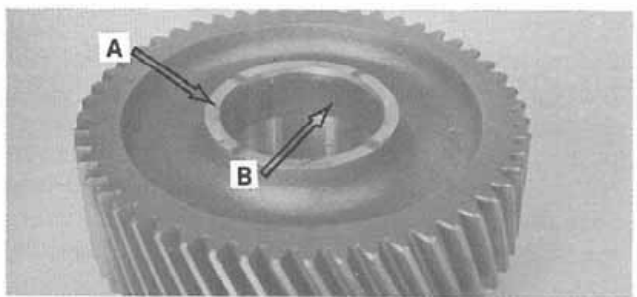

Figure 10:
On the gear hub (Fig.10), thrust surfaces (A) and bearing bore (B), polishing is allowable as long as the surfaces remain true.